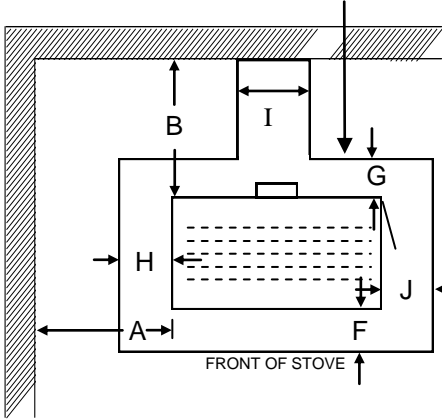
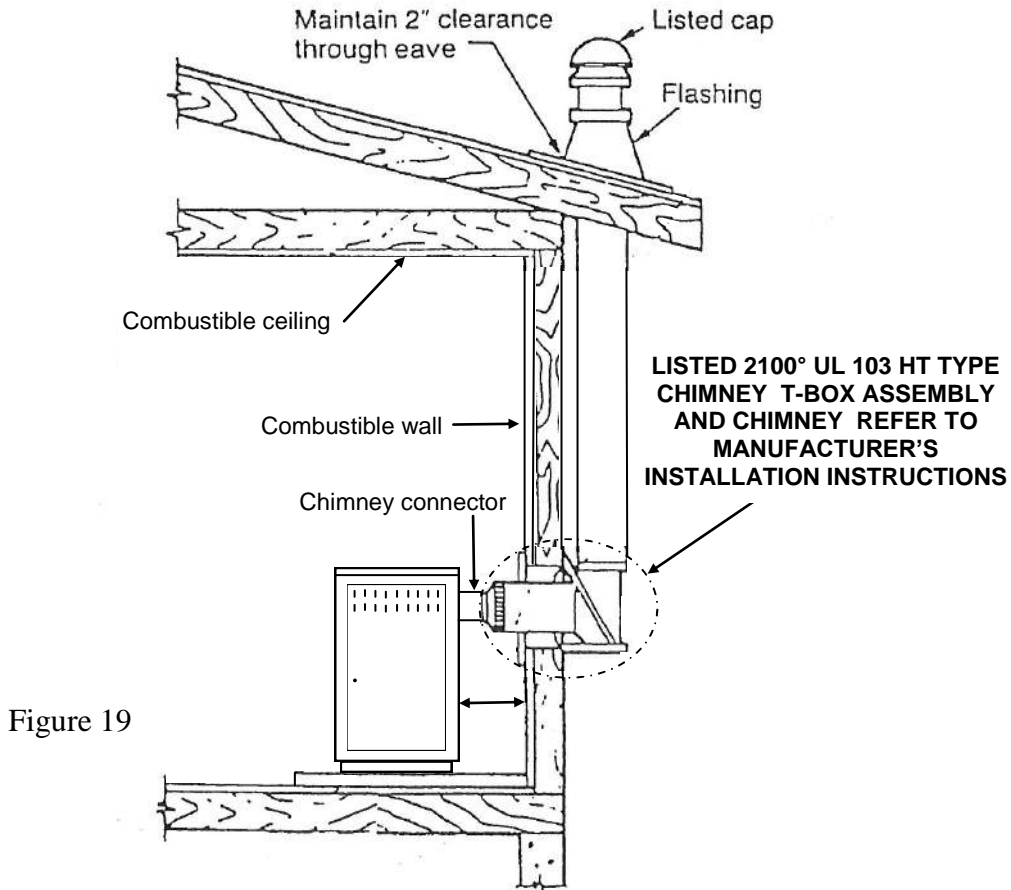

Figure 18
Figure 19
**NOTE:** For minimum clearances (See Page 21, Figure 18 and Figure 19 ).
5. Connect chimney collar to tee-box using #24 ga. minimum blued or black steel connector pipe or DVL Close Clearance pipe. **DO NOT** use galvanized pipe. Connect each section so crimped end faces downward, and secure each section to each other using three (3) sheet metal screws or rivets, using furnace cement to seal joints.